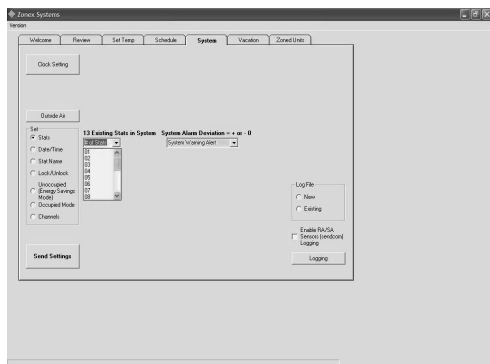

Fig. 13
1. Click on the **Stat Name** radio button (see Fig. 13), and enter individual thermostat names, **RLYCOM**, or **SENDCOM** designations. Do not exceed 20 characters and spaces on each entry.